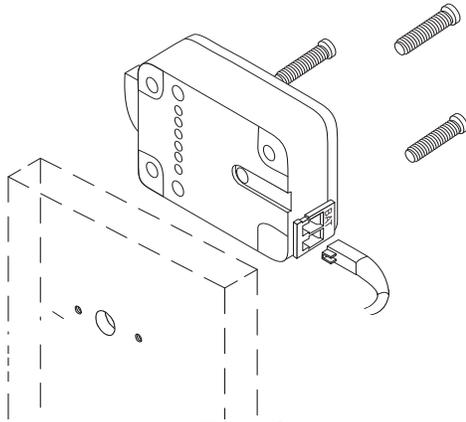

Figure 9
- 14). Using the three (3) mounting screws provided by the factory, screw down the lock to the mounting plate or door.
- Make sure you do not pinch the wires, see *Figure 9*.